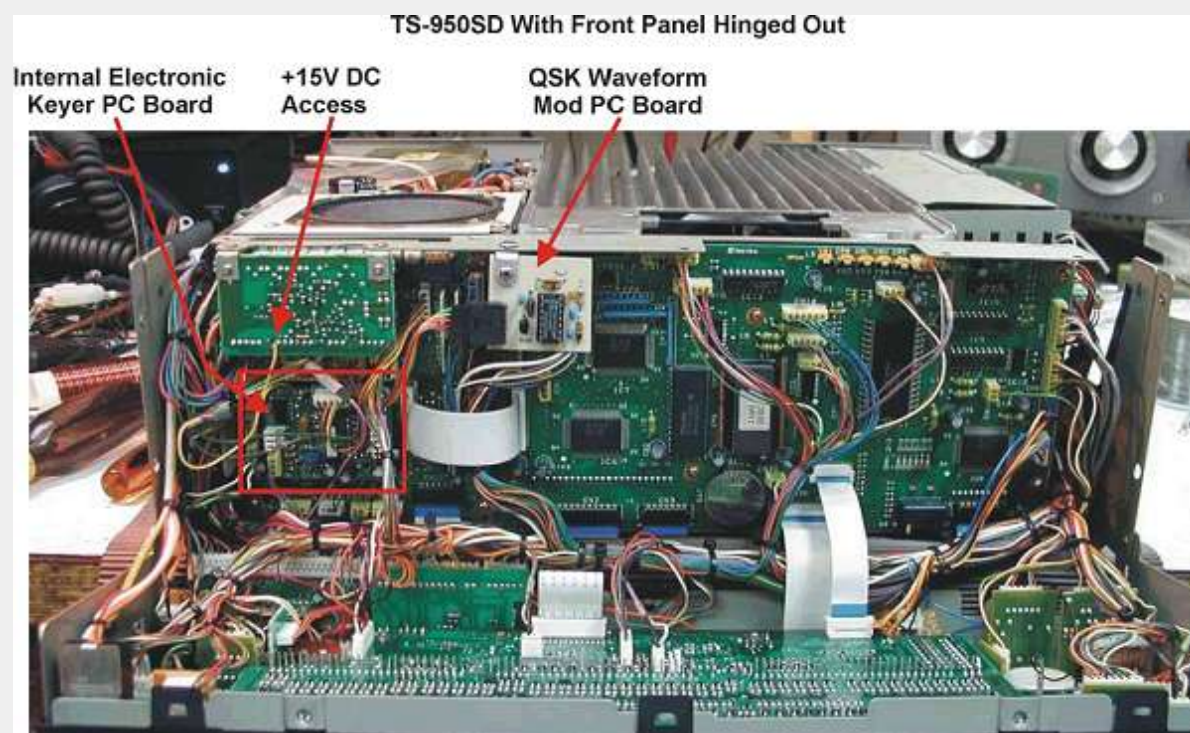

Figure 1
4. IN THE STEP WHICH FOLLOWS, BE CAREFUL TO NOT ALLOW THE FRONT PANEL TO 'FLOP' DOWN IN AN UNCONTROLLED MANNER. Should this happen, one or both of the thin white ribbon cables just to the right of center in Figure 1 may become unplugged and will require reinstallation. In this case, you must CAREFULLY pry out on the locking tabs which hold the locking mechanism of the socket and then lift the mechanism about 1/4" in order to be able to re-insert the ribbon cable. Once the cable is reinserted, press the locking mechanism back into place.
Mount the QSK mod PC board to the underside of the top lip of the chassis front, as shown in Figure 2 above, and in Figure 1, on the first page of this document.
17. Refer to Figure 1 and locate the internal keyer PC board. This PC board is not screw-mounted. It plugs onto two header blocks attached to the PC board in back of it. To access the keyer PC board, carefully, rock it back and forth as you pull it away from the larger PC board.
18. The keyer PC board has two (2) multi-wire header connectors attached to it. Carefully remove both of the multi-wire header connectors.
Attach the unterminated end of this wire to the +15VDC pad on the PC board immediately above the keyer PC board, see Figures 1 & 6 for the location of the PC board and for the proper pad to connect to. Also, **confirm** this connection in your TS-950 manual (schematic section).